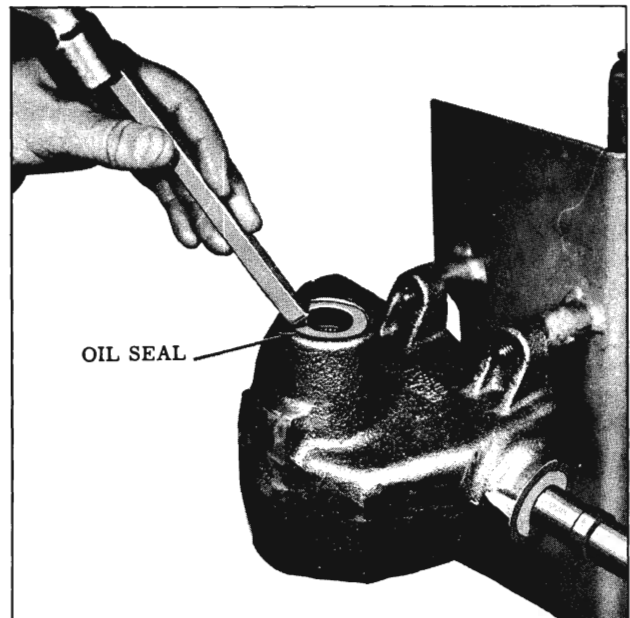

Fig. 4-12 Removing Pitman Shaft Seal
1. If pitman shaft seal ONLY is to be replaced, use a small chisel to collapse the seal so it can be lifted from the housing. (Fig. 4-12)